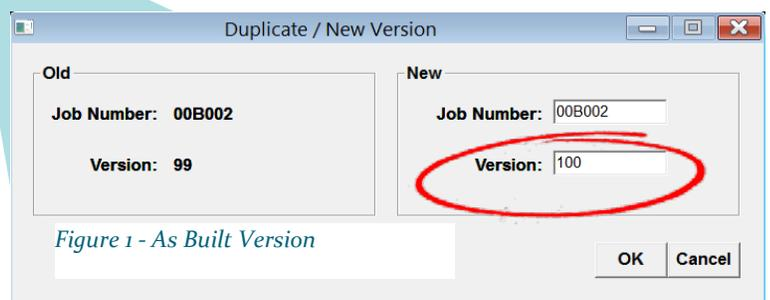

Figure 1 - As Built Version
- **As Built** – These are copies of the estimate that enable revision of the estimated quantities to final “As-Built” quantities. These versions are created from the “Awarded” or Awarded Bid estimate by advancing the version, to version 100. [see figure 1]